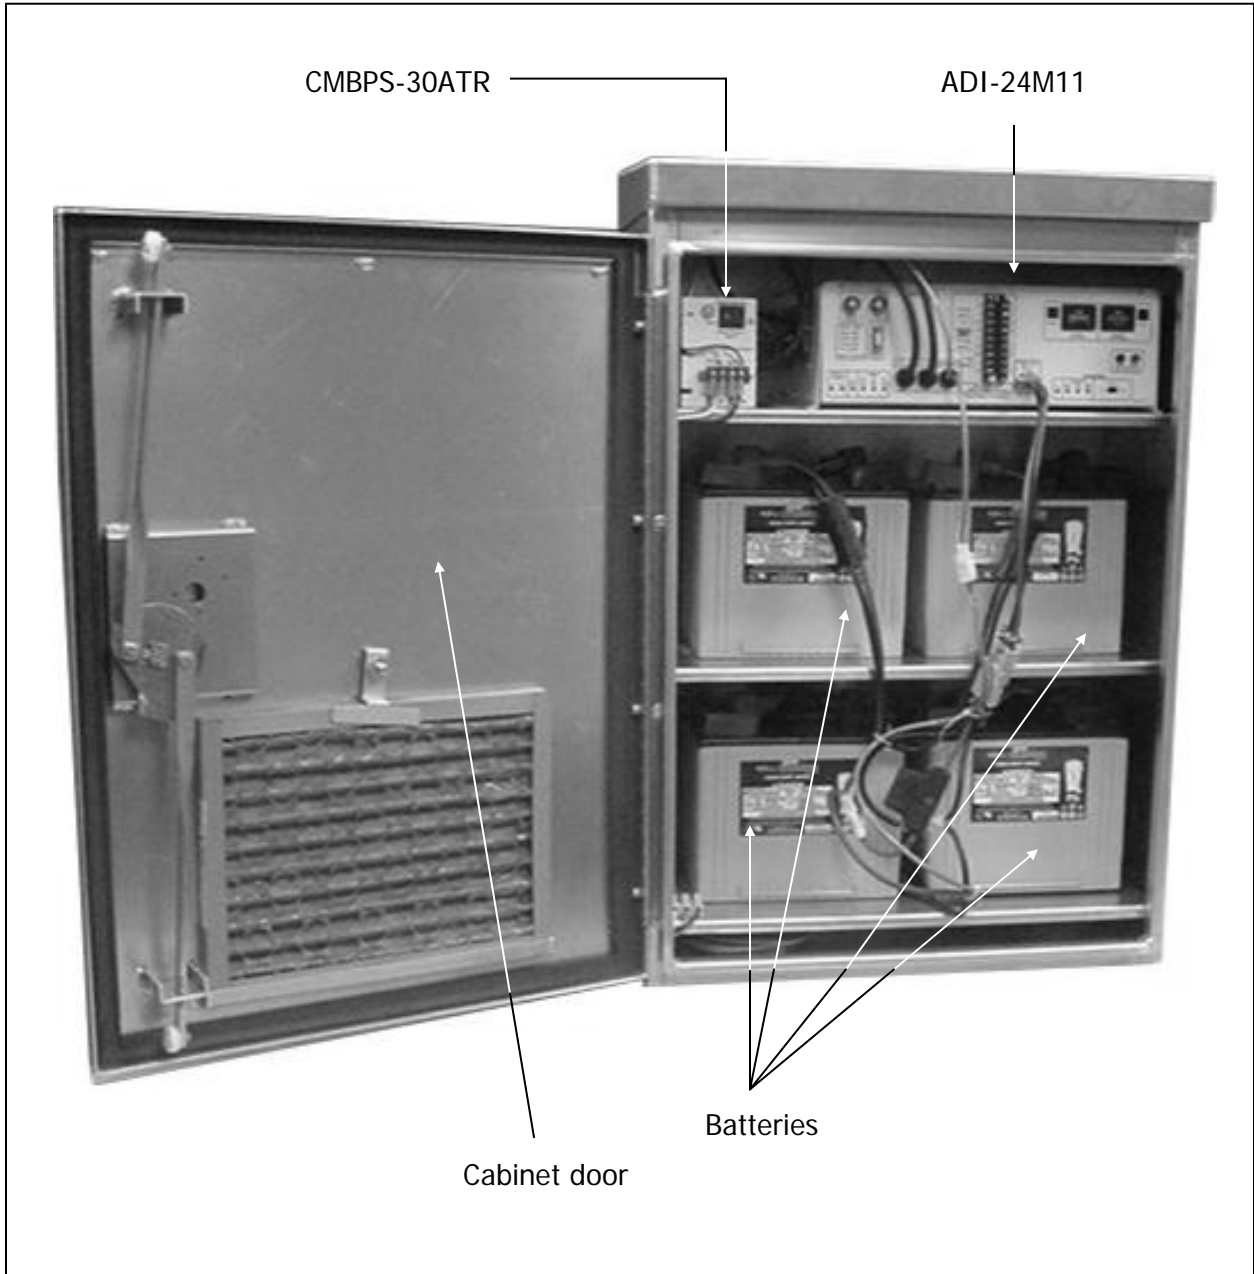

FIGURE 10: BBS components mounted in a Stand Alone Cabinet – four batteries
- Refer to Figure 10. Place two batteries on each shelf.